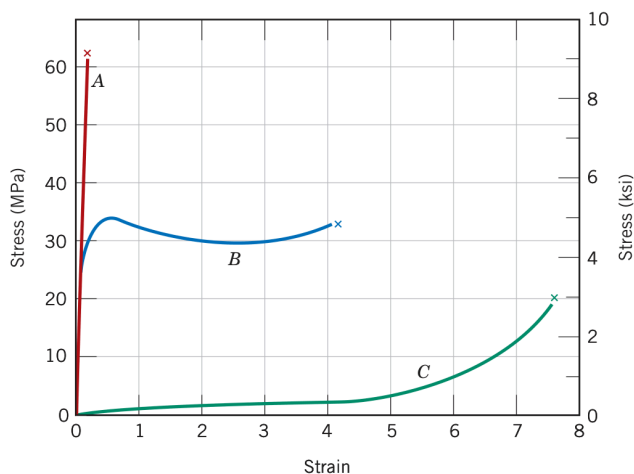

Figure 15.1 The stress-strain behavior for brittle (curve A), plastic (curve B), and highly elastic (elastomeric) (curve C) polymers.
Figure 15.1: Stress-strain behavior for polymers: Curve A (Brittle polymer below T_g), Curve B (Plastic polymer with necking/drawing), and Curve C (Highly elastic elastomer).
- **Polymer Stress-Strain Curves (Figure 15.1):**